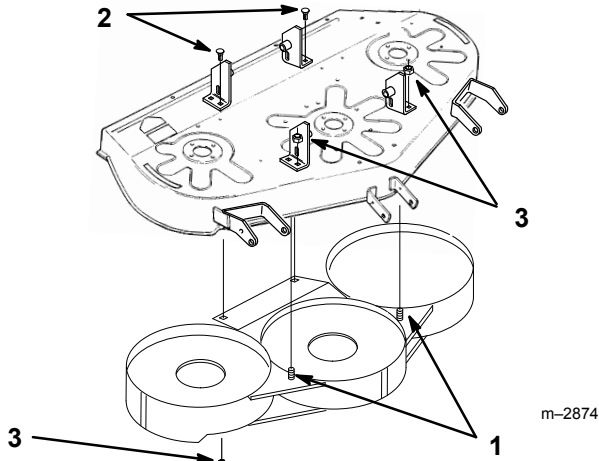

Figure 2
6. Place baffle inside mower location two (2) studs on baffle, into front linkage bracket holes (Fig. 2).
7. Place (2) 3/8 x 1-1/4" (32 mm) carriage bolts through rear linkage bracket holes. Secure carriage bolts and studs with (4) 3/8" locknuts (Fig. 2).